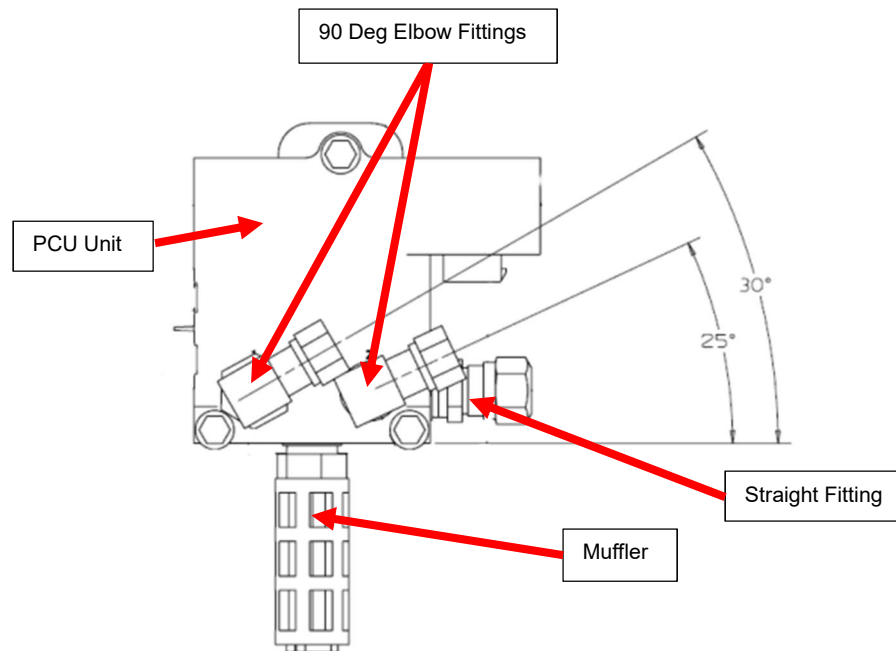

Figure 6: PCU Unit Assembly.
- a. Re-install the two 90 deg elbows in ports one and two using Loctite 567 thread sealant NF P/N 8110442 on the threads. Take care not to block the openings with thread sealant and leave the first two threads free of sealant. Install the fittings finger tight, then apply 1 – 1.5 turns past finger tight and align in the orientation seen in Figure 6.